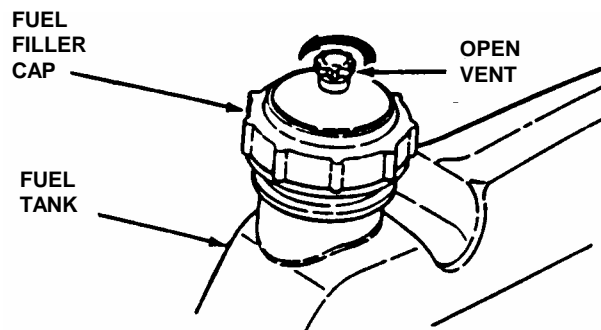

FIGURE 2.3
2.1.6. Add fuel to tank of the YARD CRUISER outside where fumes can safely dissipate. Make sure fuel filler cap is tight and vent is open after refueling. See Figure 2.3. Refer to engine owner's manual for fuel specifications.
1. Make sure fuel cap is on tight and vent is closed. Turn fuel shut off valve (If equipped) to the "CLOSED" position. Start engine and allow it to run until engine runs out of fuel. See Figure 2.3.